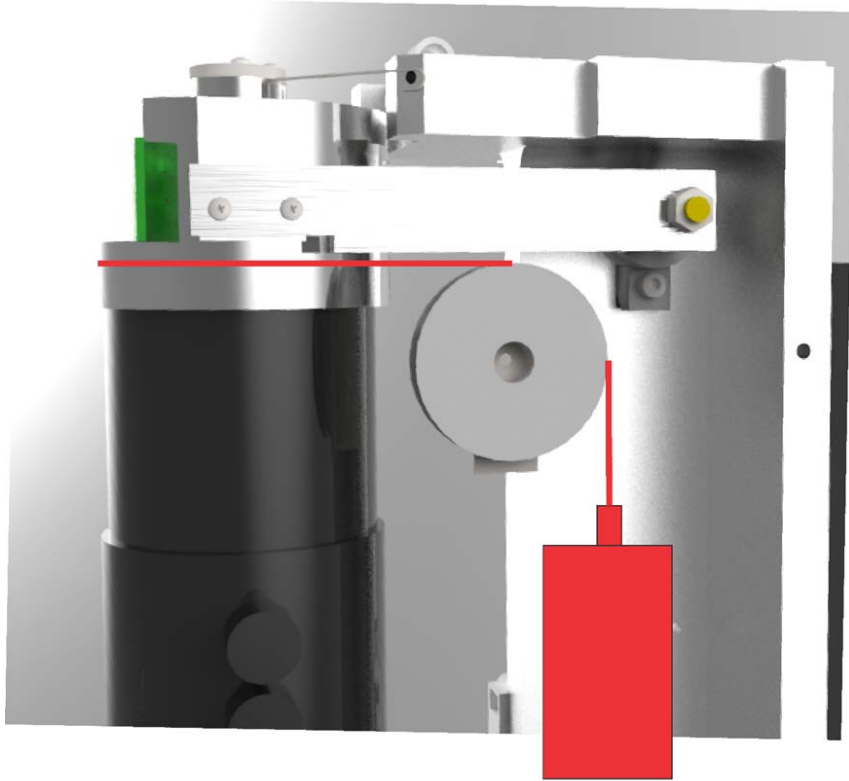

Figure 38: Position of 150 gm Calibration Weight
3. Apply the supplied 150 gram calibrated weight to the head. Press **ENTER** when ready. Refer to Figure 37 and Figure 38.